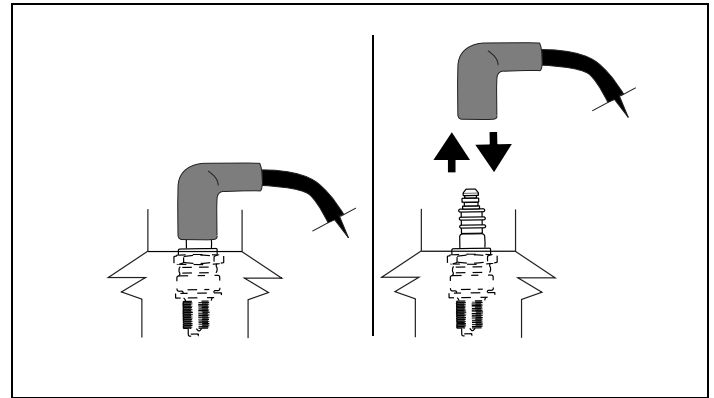

Figure 26. Disconnecting/Connecting Spark Plug
- Carefully disconnect spark plug wire and keep it away from spark plug. See Figures 26 and 27.
1. Carefully disconnect spark plug wire and keep it away from spark plug. See "G. Avoid Accidental Starts" instructions on page 2. See Figures 26 and 27. Afterward, continue reading instructions below.